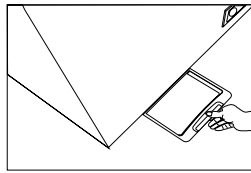

Figure 2
- 5.**Remove the drain plug by rotating. (Figure 2)